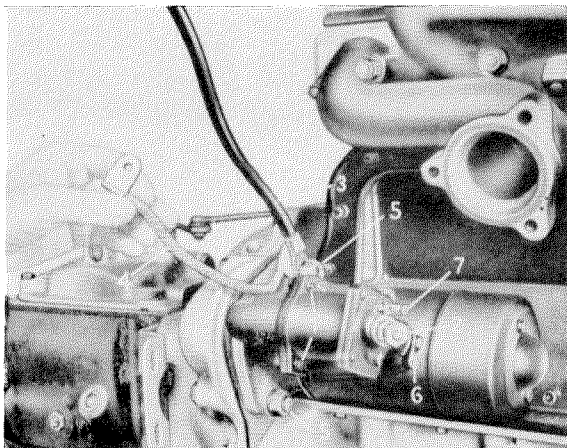

Figure 15-1/2
2. After unscrewing the slotted screw (7), remove the control lead from terminal 50 of the magnetic switch (see Figure 15-1/2).
rator to the battery) from connection (2) of the magnetic switch (see Figure 15-1/2).
4. Unscrew the nuts of the mounting screws (5) for the starter. Remove the ground cable (3) of the battery and the ground cable (4).
7. Slide the ground cables (3) and (4) as well as washer and lock washer on the upper mounting screw (5). Then screw on the hex nut.
8. Screw on the lower mounting nut (5) with washer and lock washer and tighten both nuts (5).
9. Connect the battery cable 30 and the cable 51 to the connection (2) of the magnetic switch.
10. Connect the control lead to terminal 50 (7) of the magnetic switch (see Figure 15-1/2).
11. Connect the ground cable (3) to the negative pole of the battery.